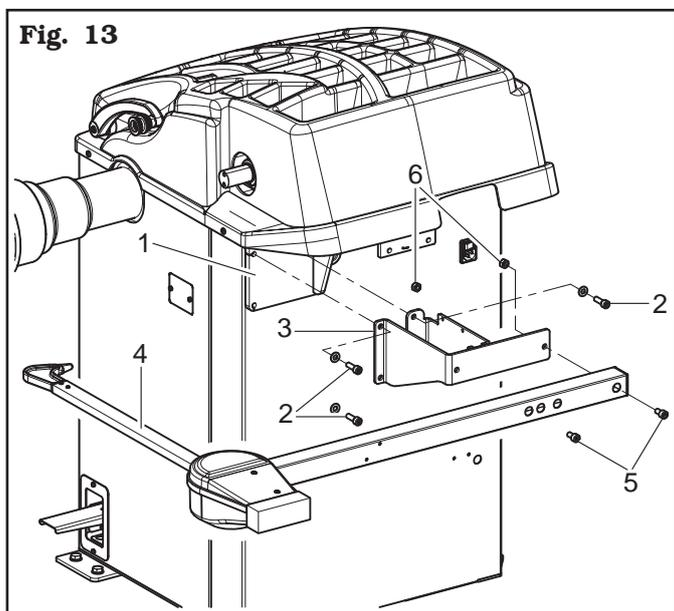
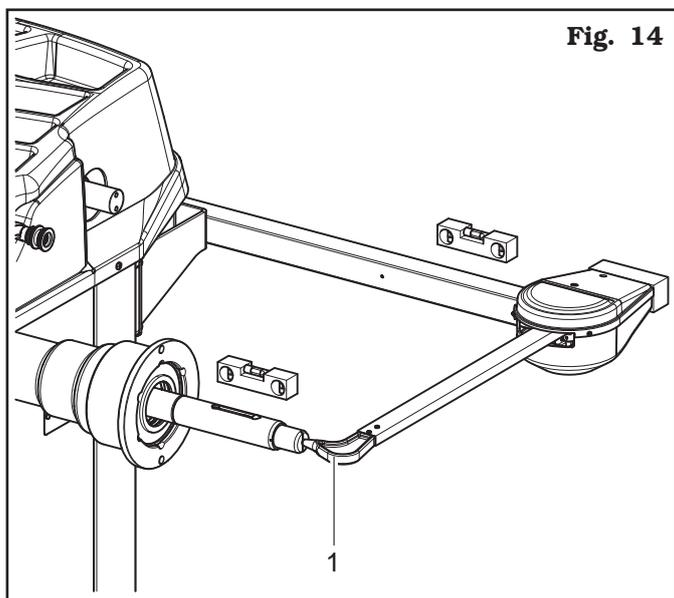

Fig. 13
Fig. 14
1. Unscrew the fastening screws of the equalizer's support (**Fig. 13 ref. 1**), being very careful about holding the same support.
2. Screw the 3 screws (**Fig. 13 ref. 2**) to the gauge bracket (**Fig. 13 ref. 3**) and in the special inserts placed on the rear side of the frame. Lock the gauge arm (**Fig. 13 ref. 4**) by screwing the 2 screws provided (**Fig. 13 ref. 5**). Lock these screws with the nuts (**Fig. 13 ref. 6**), so that the mandrel and the gauge arm are levelled out (see **Fig. 14**).
3. Also make sure the gauge tip (**Fig. 14 ref. 1**) is positioned at the centre of the mandrel.